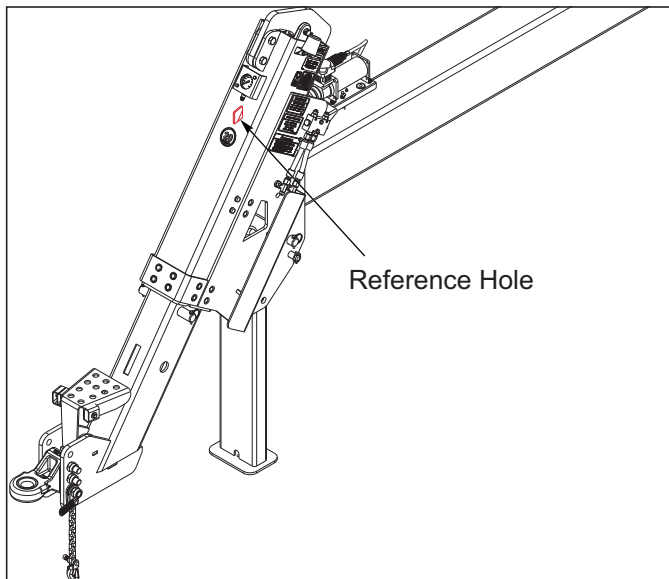

Figure 4-4: Leveling the Hitch
- g. Raise the Grain Drill hitch until the visual reference indicator is centered in the diamond-shaped hole at the front top of the hitch **See Figure 4-4.**
3. Use the diamond shaped hole at the front of the hitch as a guide to level the hitch for planting operations *See Figure 4-4*. The wear pad (inside the hitch tube) will be visible from the tractor seat as it slides by the reference hole. When the reference line on the wear pad is centered in the diamond shaped hole, the hitch should be level. Do not insert any objects in the reference holes as the wear pad slides over these holes and could damage the hitch.